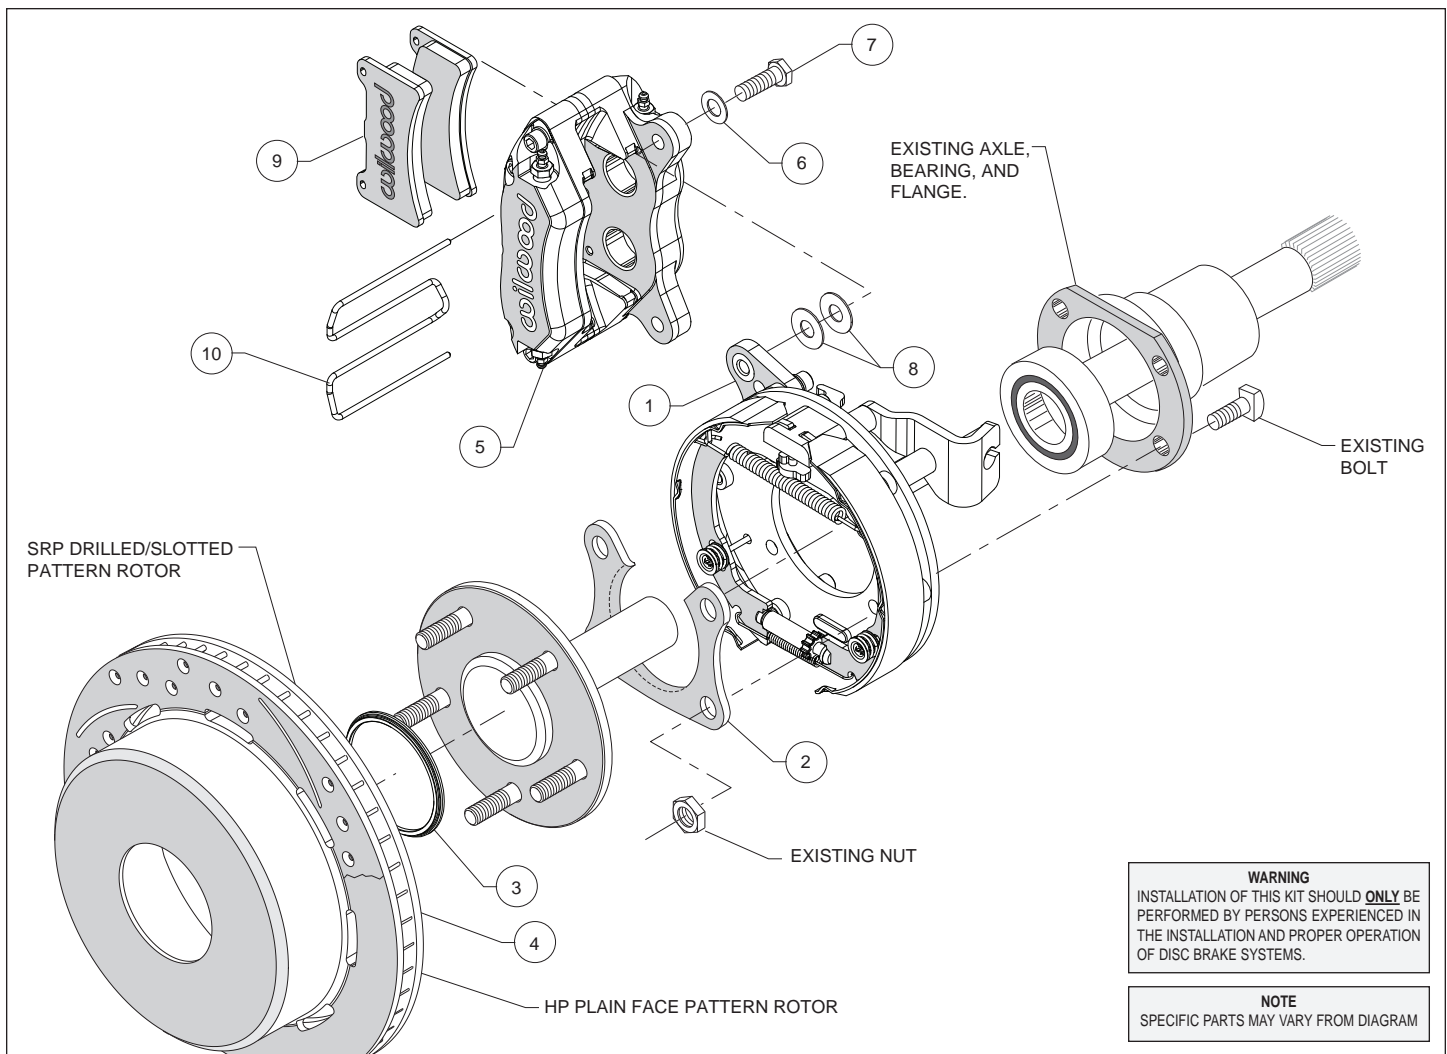
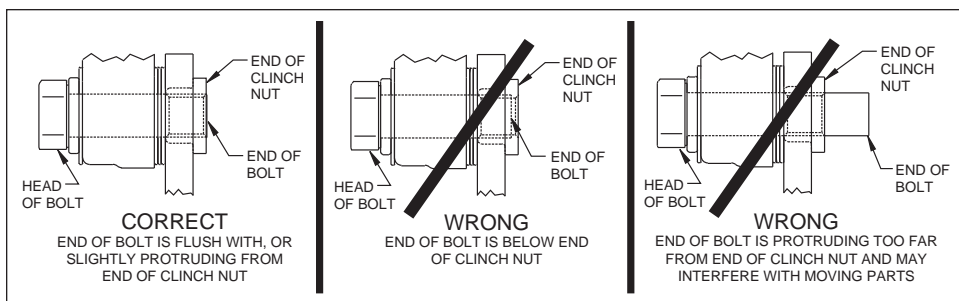

Figure 1. Typical Installation Configuration
Figure 5. Clinch Nut Engagement Diagram
**Assembly Instructions** (numbers in parenthesis refer to the parts list, and Figure 1 on the preceding pages): **CAUTION:** All mounting bolts must fully engage clinch nuts. Be sure to check that all bolts are either flush or protruding through flanged side of clinch nut after shimming, Figure 5.
- Orient the bracket assembly (1) as shown in Figure 1 and Photo 1 and slide it onto the axle. Insert the axle and bracket into the axle housing. Ensure that the bracket assembly backing plate fits flush against the axle housing flange.
- Install the bearing retainer (2) with the opening pointing upward and the lip facing inward (toward the bearing), as shown in Figures 1 and 4, and Photo 2. Secure retainer and bracket assembly to the axle housing flange using the Original Equipment Manufacturer (OEM) bolts and nuts, Figure 1. Apply red *Loctite*® 271 to the OEM bolt threads and torque to OEM specifications.
- Slide the rotor registration adapter (3) onto the axle register on the axle flange with the smaller O.D. facing toward the rotor/hat (4), Photo 3. **NOTE:** Verify axle stud size and patten. Then have a qualified machine shop drill the bolt circle of the hat/rotor to the correct stud size and pattern. Slide the hat/rotor into place, Figure 1 and Photo 4. **NOTE:** The rotor/hat must fit flush against the axle flange or excessive rotor run out may result. Install three lug nuts (finger tight) to keep the rotor/hat assembly in place while continuing with the installation.
- NOTE:** Please reference the caution statement at the beginning of the assembly instructions. Mount the caliper (5) onto the caliper mounting bracket (1) using bolts (7) and washers (6), as shown in Figure 1. Initially place two .035" thick shims (8) on each bolt between the caliper and the bracket, Photo 5. Temporarily tighten the mounting bolts and view the rotor (4) through the top opening of the caliper. The rotor should be centered in the caliper, Photo 6. If not, adjust by adding or subtracting shims between the bracket and the caliper. Always use the same amount of shims on each of the two mounting bolts. **NOTE:** The end of each bolt must be flush with or slightly protruding from the head of the clinch nut, as shown in Figure 5. If necessary place spare shims between washer (6) and caliper mounting ear to achieve the proper clinch nut engagement. Once the caliper alignment and clinch nut engagement are correct, remove the bolts one at a time, apply red *Loctite*® 271 to bolt threads, and torque to 40 ft-lb.